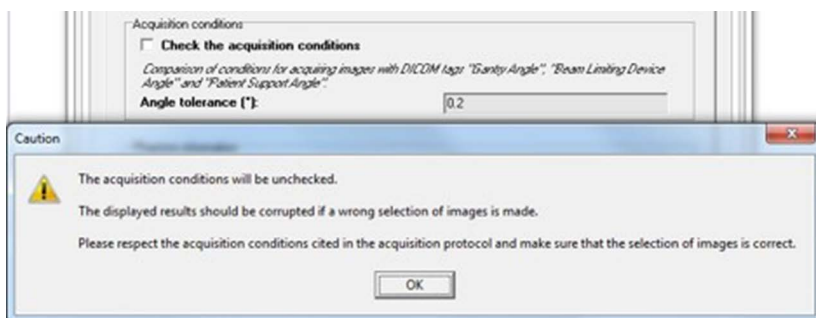

Figure 3-7. Message acknowledging that angles specified in DICOM header for Gantry Angle, Beam Limiting Device, and Patient Support Angle are not selected.
- If the Coordinate System of the linac to be analyzed is different from international standard IEC 61217, it is advisable that the user clears the Check the acquisition conditions checkbox and acknowledges the warning message in order to validate the linac as shown in Figure 3-7.